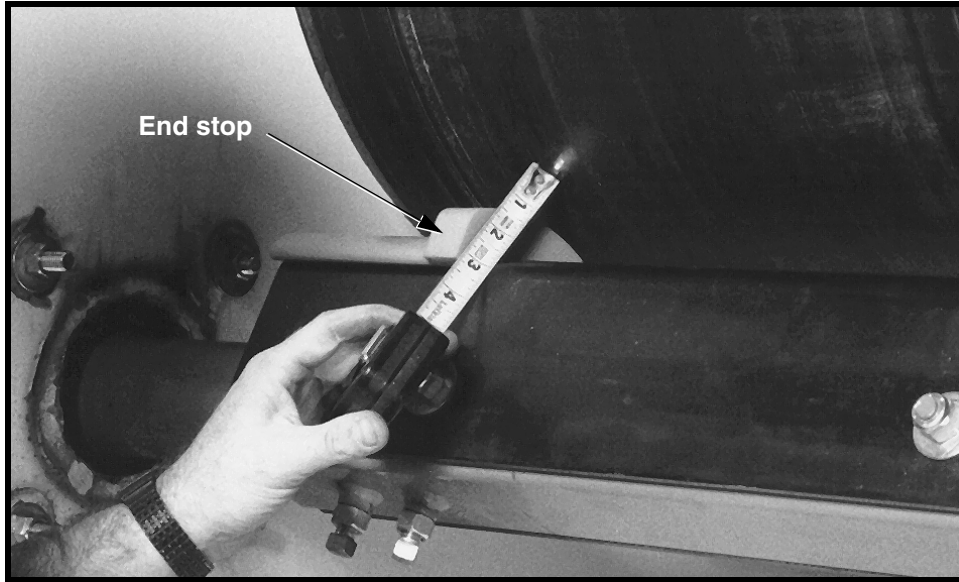

**Figure 3. Belt cleaner mainframe**
- a. (See Figure 3) Loosen hex head cap screws (A) on end stop (B) on end of mainframe assembly where lanyard is visible. Remove end stop.
- b. Loosen elastic nuts (D) on split frame (C) and pull lanyard to slide blades off end of mainframe assembly.
8. Loosen four square head set screws on bottom of mainframe assembly. Center the blades on belt by adjusting end weldments for telescoping mainframe (F, Figure 3). Measure from center point of pulley to outside edge of first and last blade to make sure blades are centered.